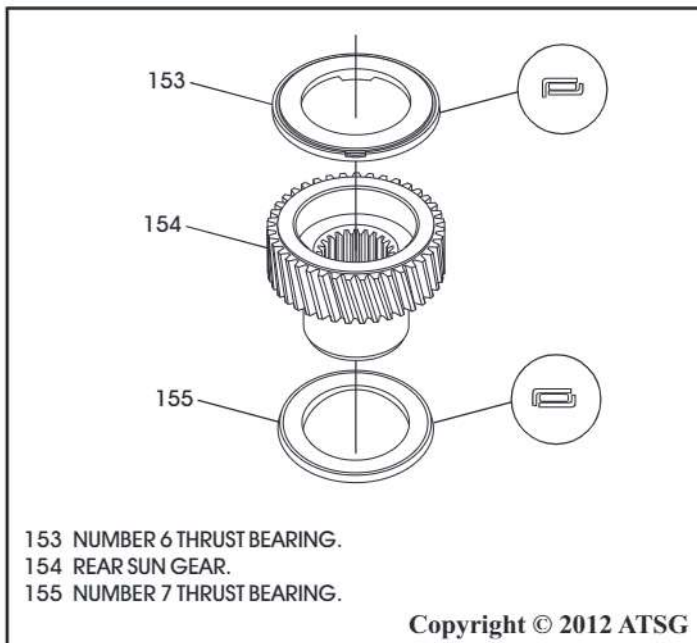

Figure 252
47. Install number 7 thrust bearing on bottom of the rear planetary sun gear in the direction shown in Figure 252 and retain with Trans-Jel®.
48. Install number 6 thrust bearing on top of the rear planetary sun gear in the direction shown in Figure 252 and retain with Trans-Jel®.